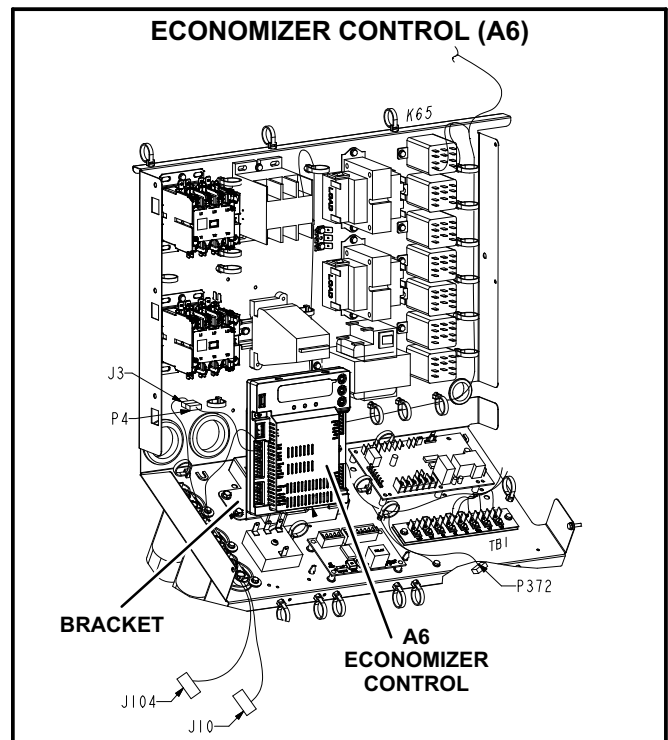

FIGURE 13
- 1- Install the economizer control bracket in the unit control area. See figure 13. Secure bracket with #10-16 x 5/8 screws provided in kit.
- 2- Install A6 economizer control on the bracket as shown in figure 13. Secure with #6 - 32 X 7/8 TFS screws provided.